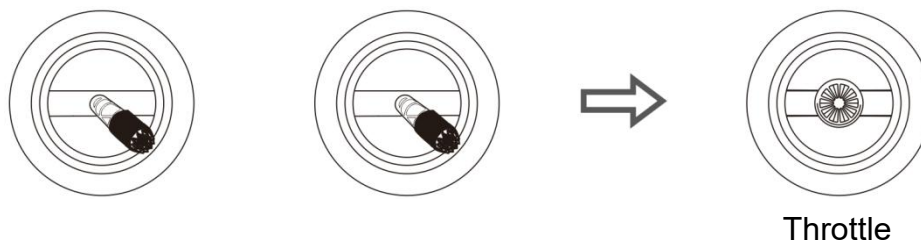

Figure2-3-3 Unlock and Hover
**Step 5:** The drone remains at its current altitude and hovers after the throttle lever is centered, as shown in Figure 2-3-3.